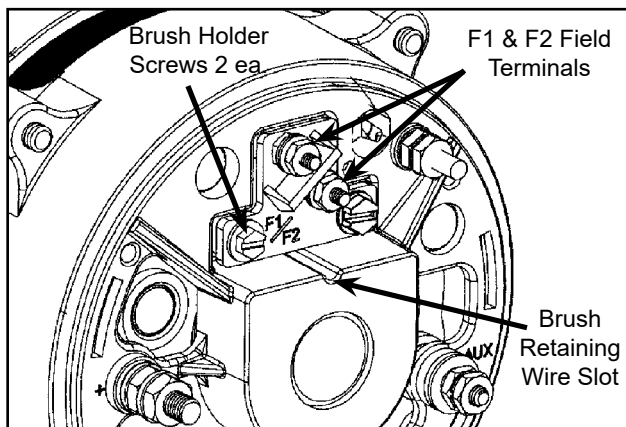
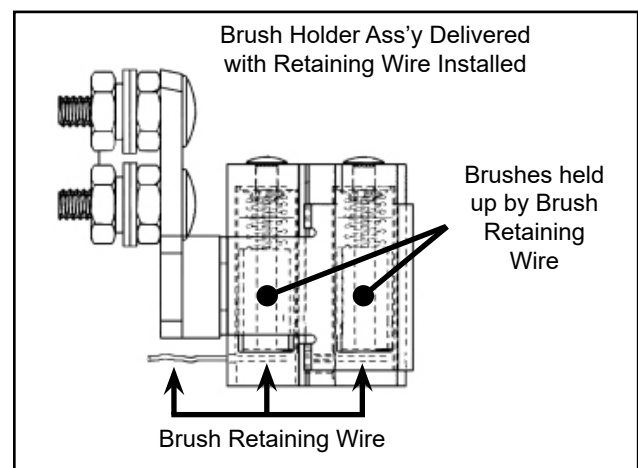

Figure 6.3a - Brush Holder Locations
Figure 6.3d - Brush Retaining Wire
- (4) Remove the two screws that hold the brush holder ass'y in the slip ring end housing (SRE). Refer to Figure 6.3a.
- (5) Slowly remove the brush holder ass'y from the SRE taking care not to drop the brushes into the alternator (brushes are spring loaded). If checking brushes only, be sure to mark and note the position and orientation of each brush. Discard the brushes if replacing.
- (6) If both brushes are not present upon removal of the brush holder, the missing brush must be located and recovered from the alternator before proceeding.
- (2) Install a two inch stiff 22 gage insulated wire into the hole provided in the side of the brush holder while pushing in each brush with a soft tool like a small wood or nylon dowel. The wire will retain the brushes for installation of the holder. Refer to Fig. 6.3d.
- (4) Torque the brush holder screws to 11-14 in-lbs (14.91 to 18.99 Nm). Refer to Fig. 6.3a.
- (5) Spin the shaft several rotations to check for interference between the brush holder and rotor.
- (6) Remove insulated brush retaining wire from brush holder ass'y. Rotate shaft in running direction and listen for smooth operation. Refer to Figure 6.3d.
- (7) Torque first nut, F1 & F2 as required, to 12 -15 in-lbs. Connect field terminals from aircraft harness. Install terminal washers and nuts. Torque second nut to 6 -8 in-lbs.
- (8) Restore aircraft battery and/or other power source which has been disconnected.